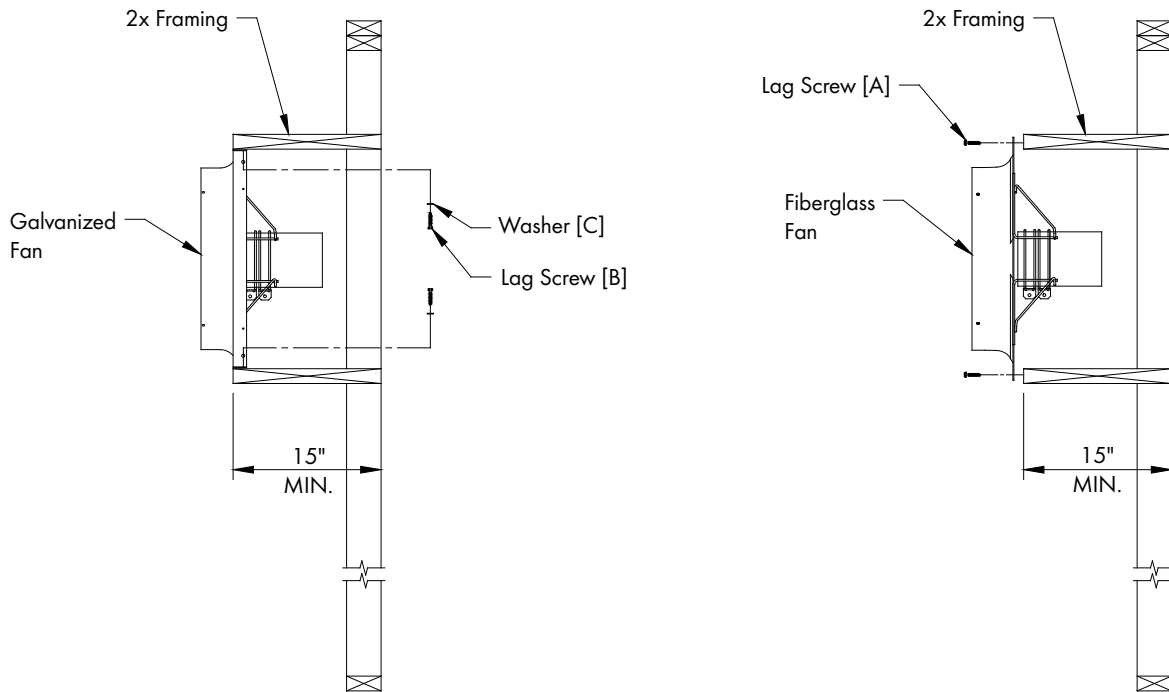

Figure 3
Insert fan into framed opening from outside and fasten in place using (8) Lag Screws [A] for Fiberglass Fans or (8) Lag Screws [B] and Washers [C] for Galvanized Fans. Flash and caulk around opening. See Figure 3.